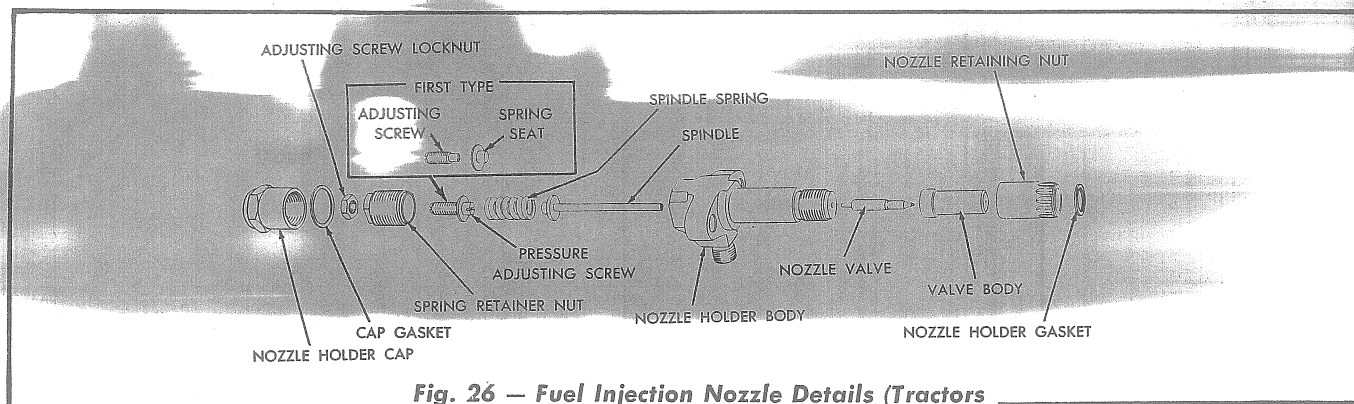

Fig. 26 — Fuel Injection Nozzle Details (Tractors Prior to Serial No. 4001)
- f. Rinse the spindle in clean fuel and insert it into position in the holder body. Place the spindle spring in position on the spindle. *NOTE: If the nozzle being assembled has the early type pressure adjusting screw and upper spring seat (Fig. 26), place the spring seat in position on the spring. Start the spring retainer nut (with pressure adjusting screw) into the holder body. Tighten the retainer nut securely (50 to 60 lbs. ft. torque).*